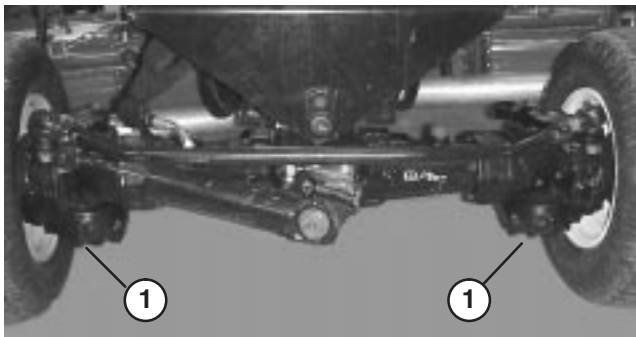

Figure 70
2. Clean area around the drain plugs (Fig. 70).